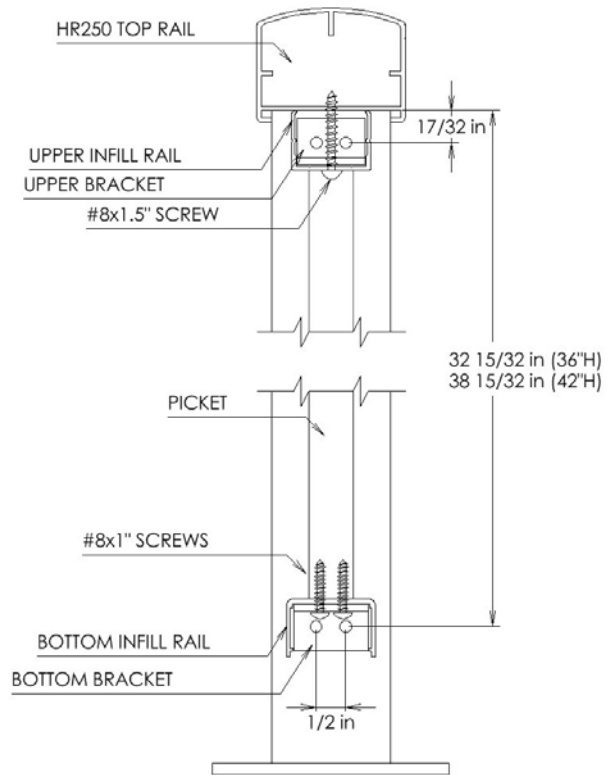

Fig. 2
- Attach Assembled Picket Infill Sections to Posts:** See Fig 2 for pilot hole locations. Pre-drill posts with the 11/64" drill. Attach Bottom Brackets to opposing posts. Set the picket section on the bottom brackets, and attach Upper Brackets to the posts with #10x3/4" screws.